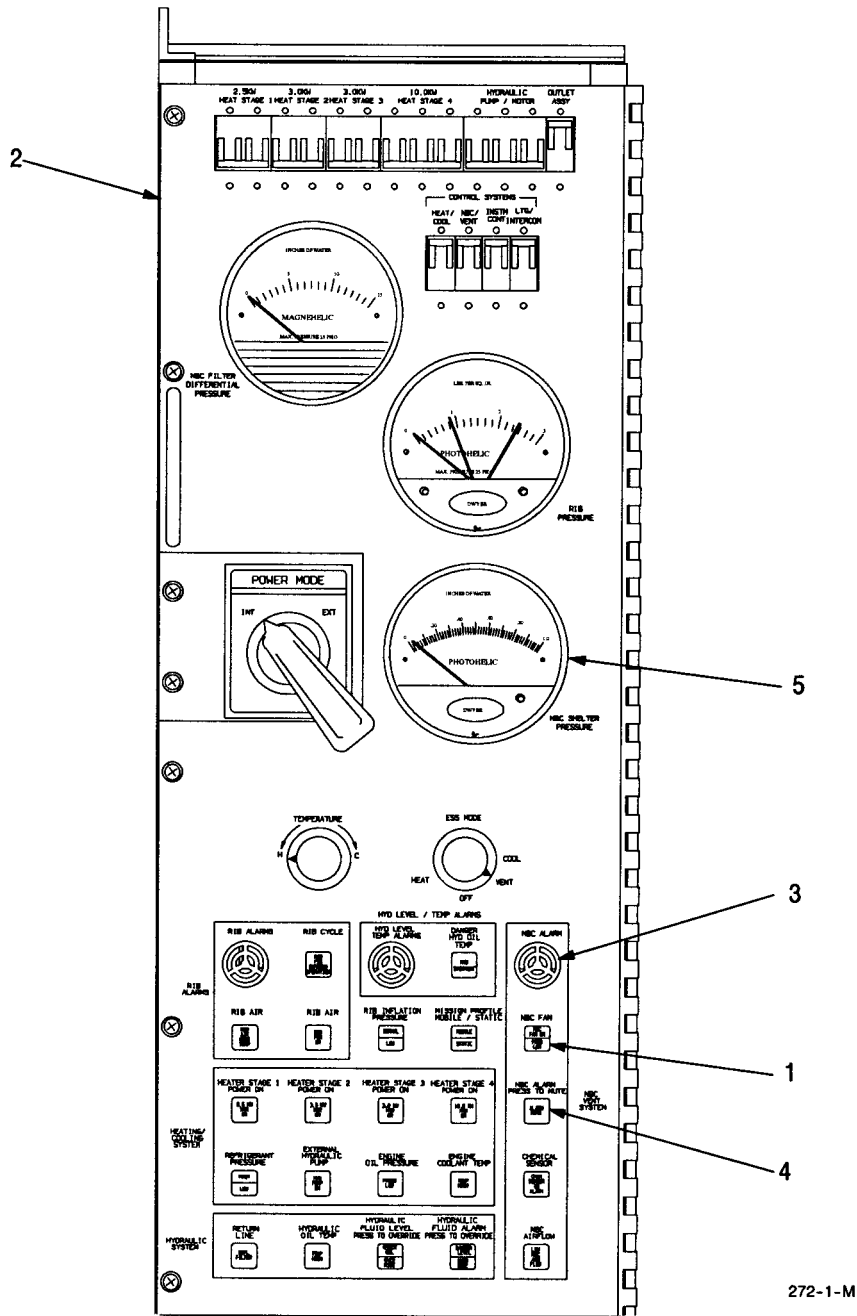

Figure 2-25. Rear Control Panel Settings, Internal Power - Switch Over From Non-NBC to NBC Conditions
- (1) Put on chemically protective masks.
- (2) Ensure that access door and emergency exit hatch are closed and latched.
- (3) Press NBC FAN switch (1, figure 2-25) on rear control panel (2) to turn on NBC fan (NBC FAN ON indicator lights green). NBC alarm buzzer (3) will sound and LOW PRES indicator on NBC FAN switch (1) will light (red). Pressing NBC ALARM (press to mute) switch (4) will silence NBC alarm buzzer (3) and ALARM MUTE indicator on NBC ALARM (press to mute) switch (4) will light (blue). NBC fan will run until NBC SHELTER PRESSURE gage (5) registers 0.5 iwg.
- (4) When ABS has reached over pressure of 0.5 iwg on NBC SHELTER PRESSURE gage (5), press NBC ALARM (press to mute) switch (4) to turn off alarm mute. ALARM MUTE indicator (blue light) on NBC ALARM (press to mute) switch (10) will go off.
- (5) Ensure that fastener hook and fastener loop fasteners are engaged properly on inner ambulatory airlock door and that side zipper is closed on inner TALP airlock door.